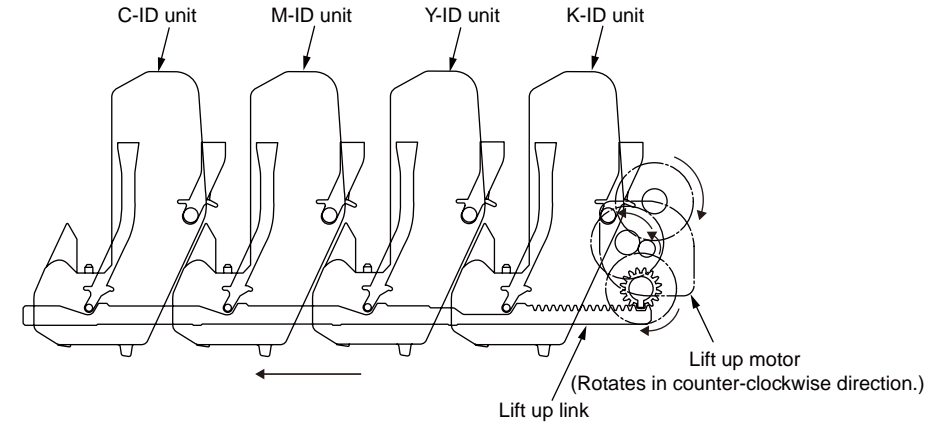

Fig. 2-6
2. Operations of the respective ID units during color print are shown in Fig. 2-6. When the lift up motor rotates (in counter-clockwise direction), the lift up link slide to the left and moves down the respective ID units as shown in Fig. 2-6. This condition means that color print is ready .